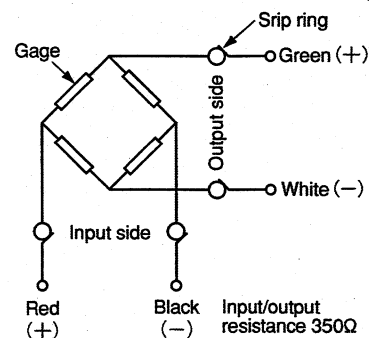

Fig.6
- 8.2 If zero balancing or readings are found abnormal, check the bridge resistance by referring to Fig.6 and 7. If a discrepancy of several Ω is found between the bridge resistance measured and the description of the test data sheet, the cause may be failure of the transducer.